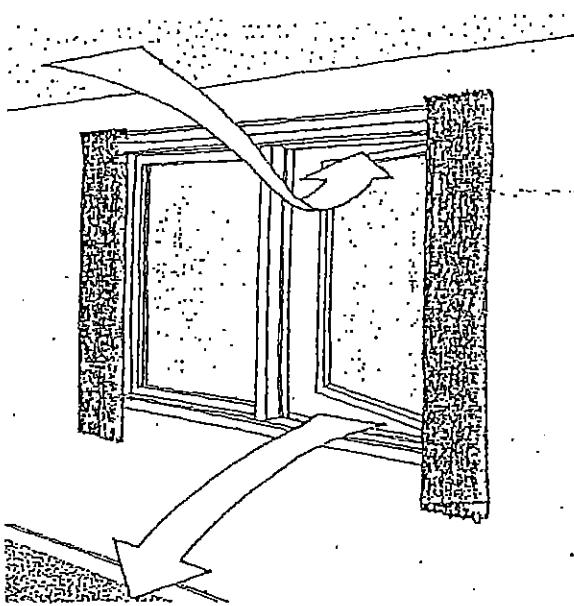

Figure 12 Opening a window helps reduce localized condensation
- 9 If necessary you can open your window to reduce localized condensation (Figure 12).